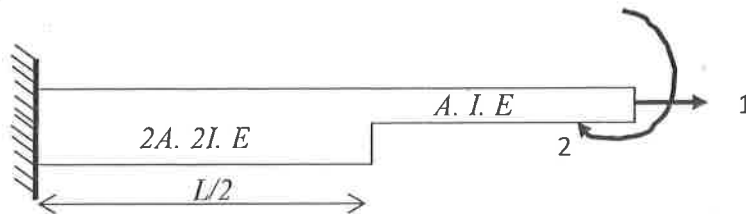

Fig.1.
3. Obtain the flexibility matrix of a stepped structural element of length ' L ' with the coordinates shown in Fig.1.